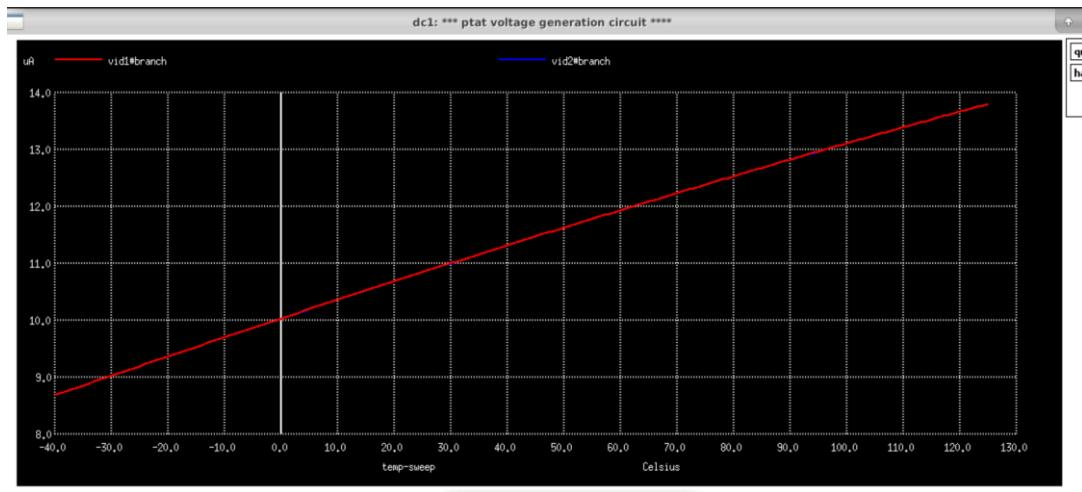

Fig10. Current through Vid1 and Vid2 branches simulation
- In fig10 current in both the branches vid1 and vid2 are same so its satisfying both our theoretical assumption and design specifications.